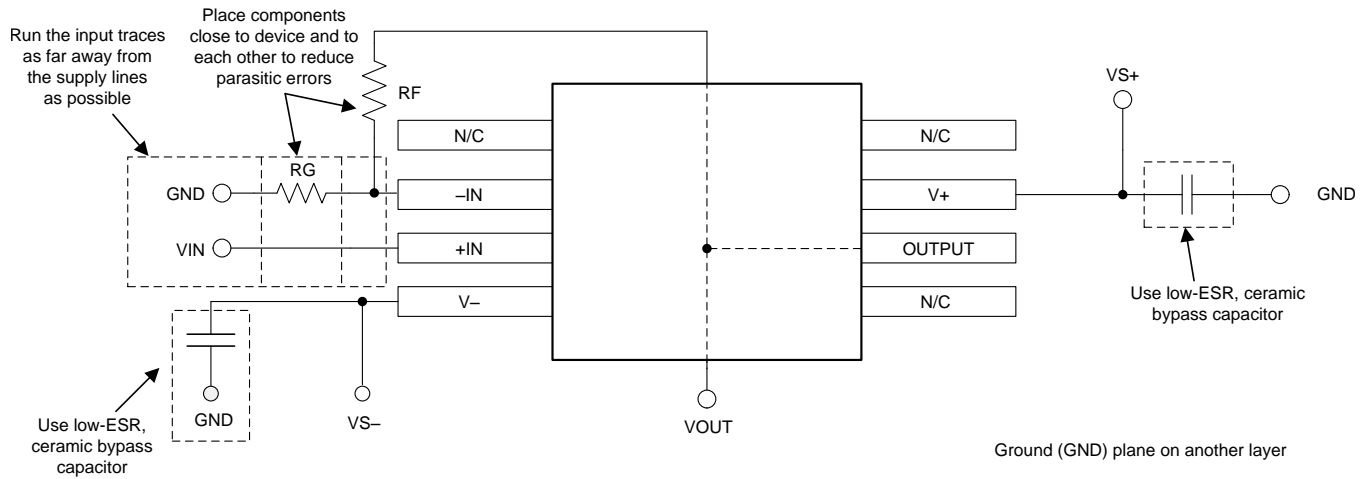

Figure 52. Operational Amplifier Board Layout for a Noninverting Configuration
- Place the external components as close to the device as possible. As illustrated in Figure 52, keeping RF and RG close to the inverting input minimizes parasitic capacitance.